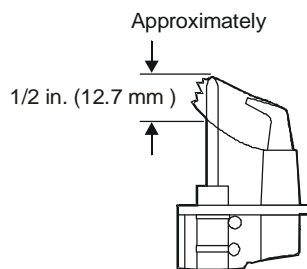

Figure 7: Flame Position (H19A_ only)
- A flame approximately 1/2 in. (12.7 mm) high must surround the thermocouple tip (Figure 7).